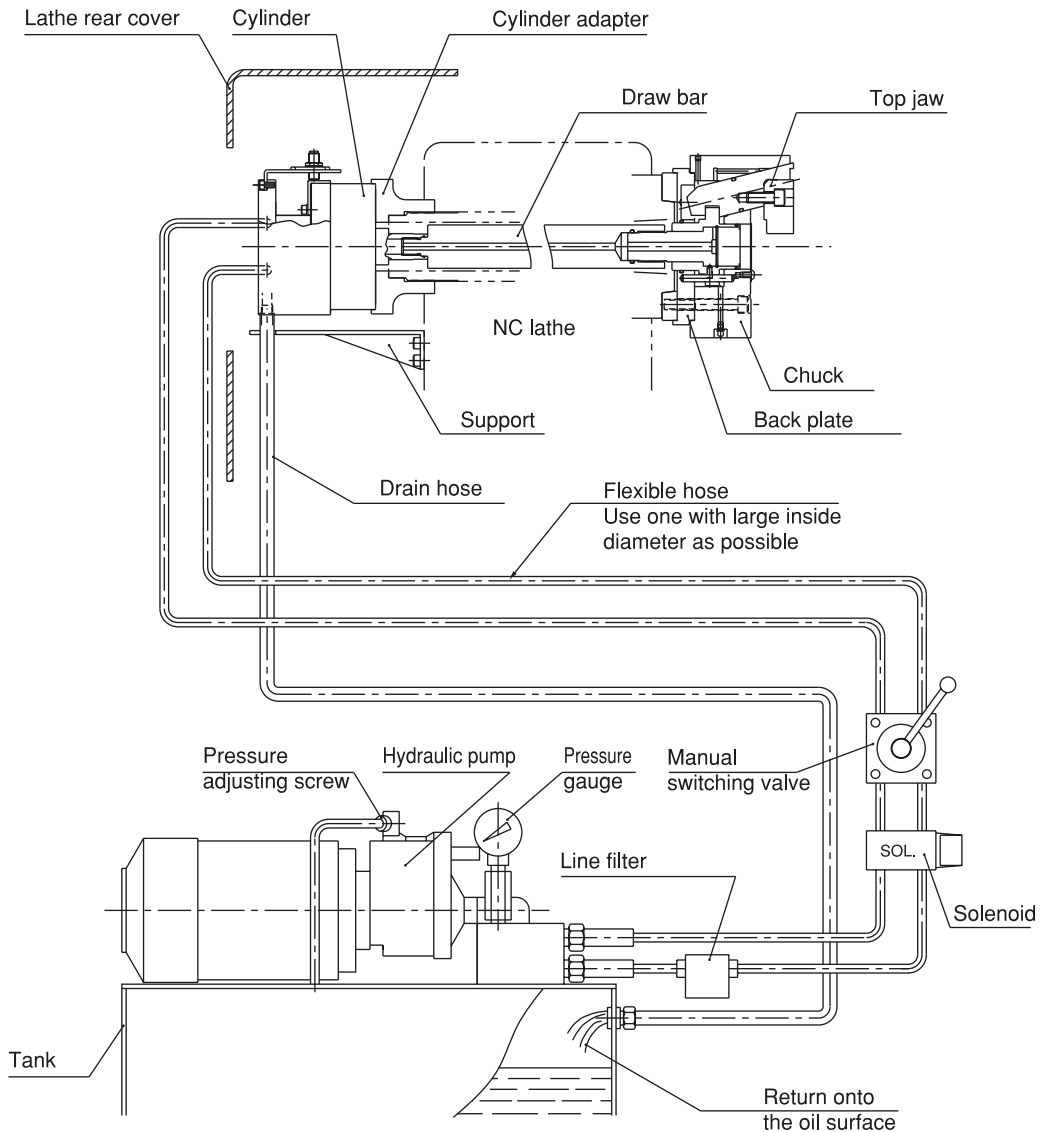

Fig. 9
- The end of the hose is physically above the oil level. (Refer to Fig.9)
- Arrange the drain hose to come back to the above of oil tank surface of the hydraulic unit.(Fig.9) If the drain hose is connected to T-port such as valve block, etc., the oil seal of cylinder will damage because back pressure is applied to the hose.